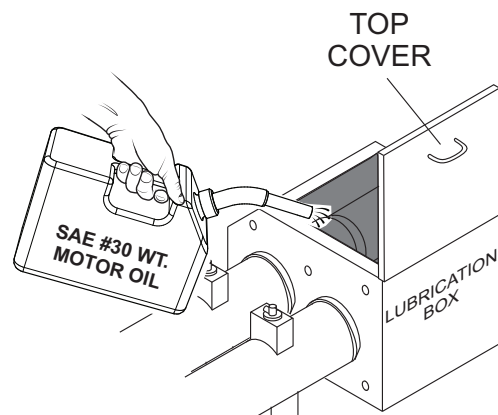

Figure 16. Filling the Lubrication Box
3. Check the oil level in the **lubrication box** (Figure 16). If low, fill with up to 5.5 gallons of SAE #30 motor oil. The oil level must be checked daily. The lubrication box should be serviced as described in the maintenance section.